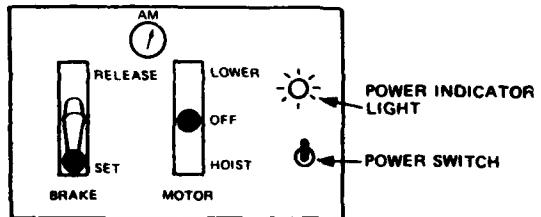

Figure 3
- Overspeed. To restore power to the hoist after the overspeed control cuts off power, the hoist operator will: (See Figure 3)